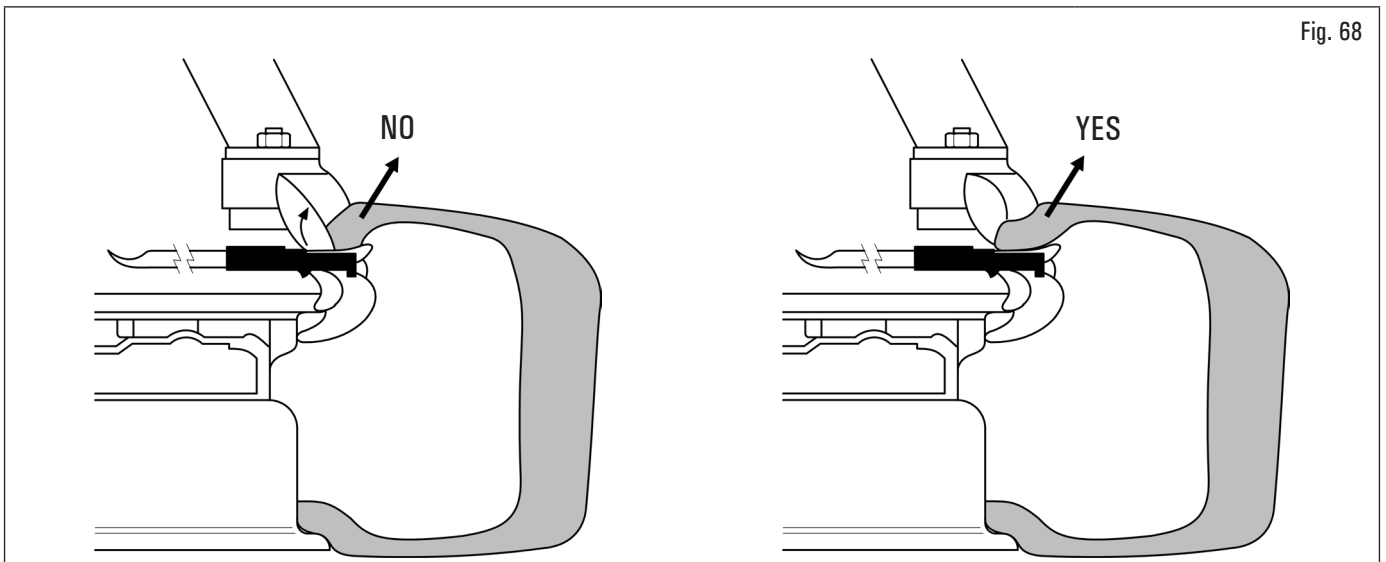

Fig. 68
11. keeping the lever firmly in place, make a brief anti-clockwise rotation of the spindle to facilitate the correct positioning of the bead on the lever itself: the lip of the bead in the portion in contact with the lever must be facing the operator and not towards the inside of the tyre (see Fig. 68);